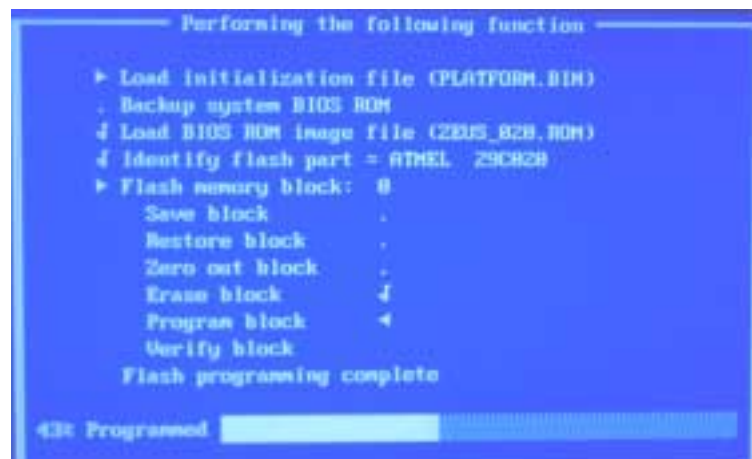

Figure 16-5 Phlash program
9. Verify that Phlash program begins loading new BIOS version (see Figure 16-5).